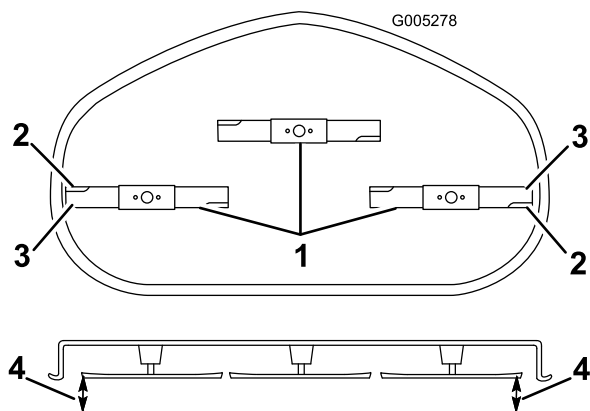

Figure 53
4. Carefully rotate the blade(s) so that they are all side to side (Figure 53).
5. Measure between the outside cutting edges and the flat surface (Figure 53). If both measurements are not within 5 mm (3/16 inch), an adjustment is required; continue with this procedure.